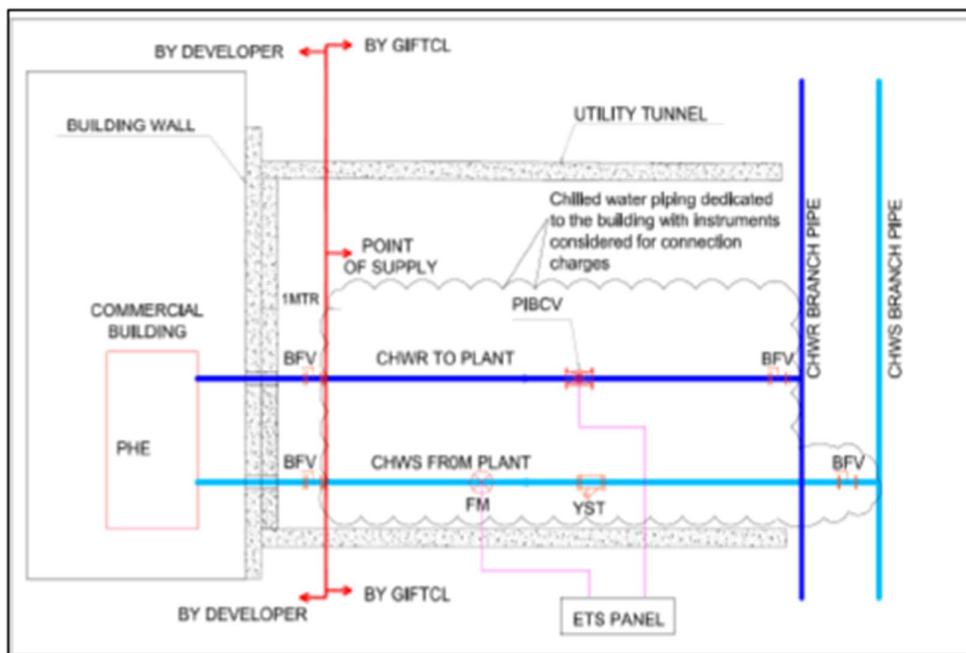

Figure 2 - Battery limit in Commercial buildings
- vii. Cost of total length of dedicated Chilled water insulated pipe at actual (both supply & return pipe included) of adequate size required to provide DCS service, measured from Point of Supply up to the branch pipe tapping connecting to the main chilled water header. (Refer figure 2 & 3)